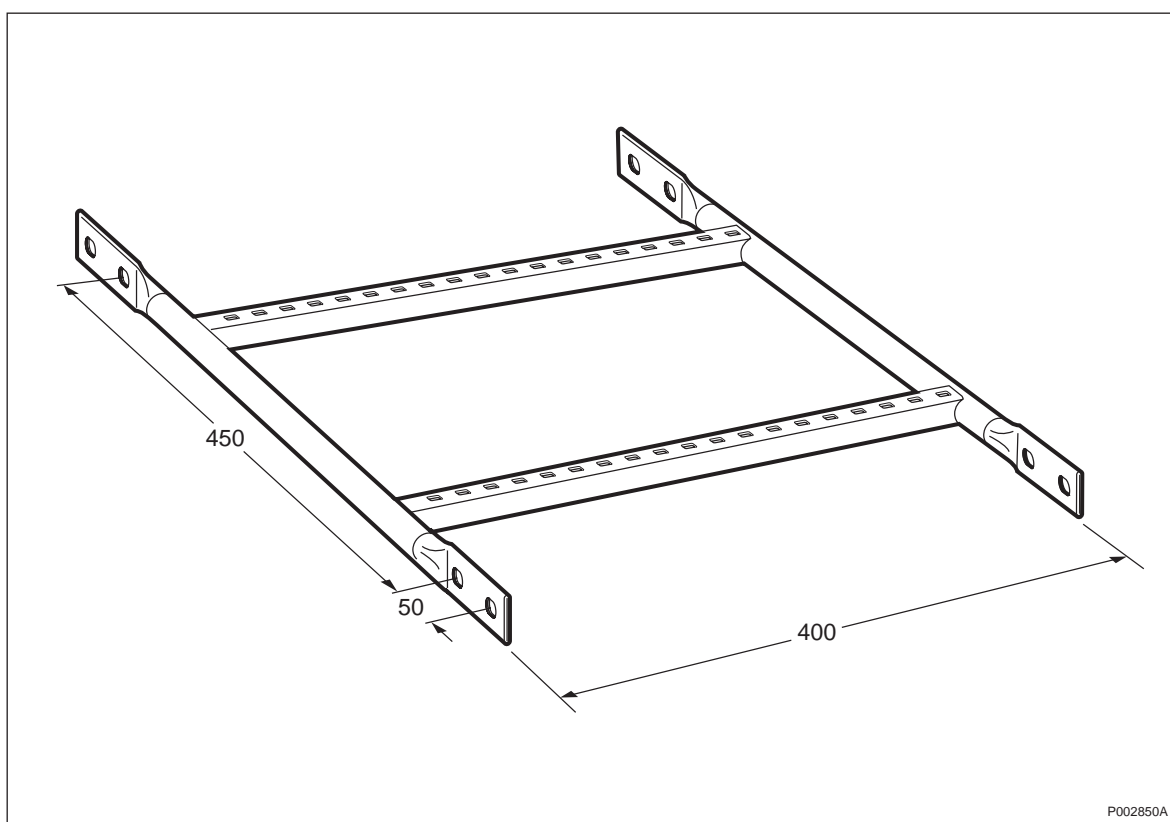

Figure 3 T-junction set SXA 105 8350/1
12. When two ladders are at right angles, a Junction Set SXA 105 8350/1 (pos 14 and figure 3) is required.